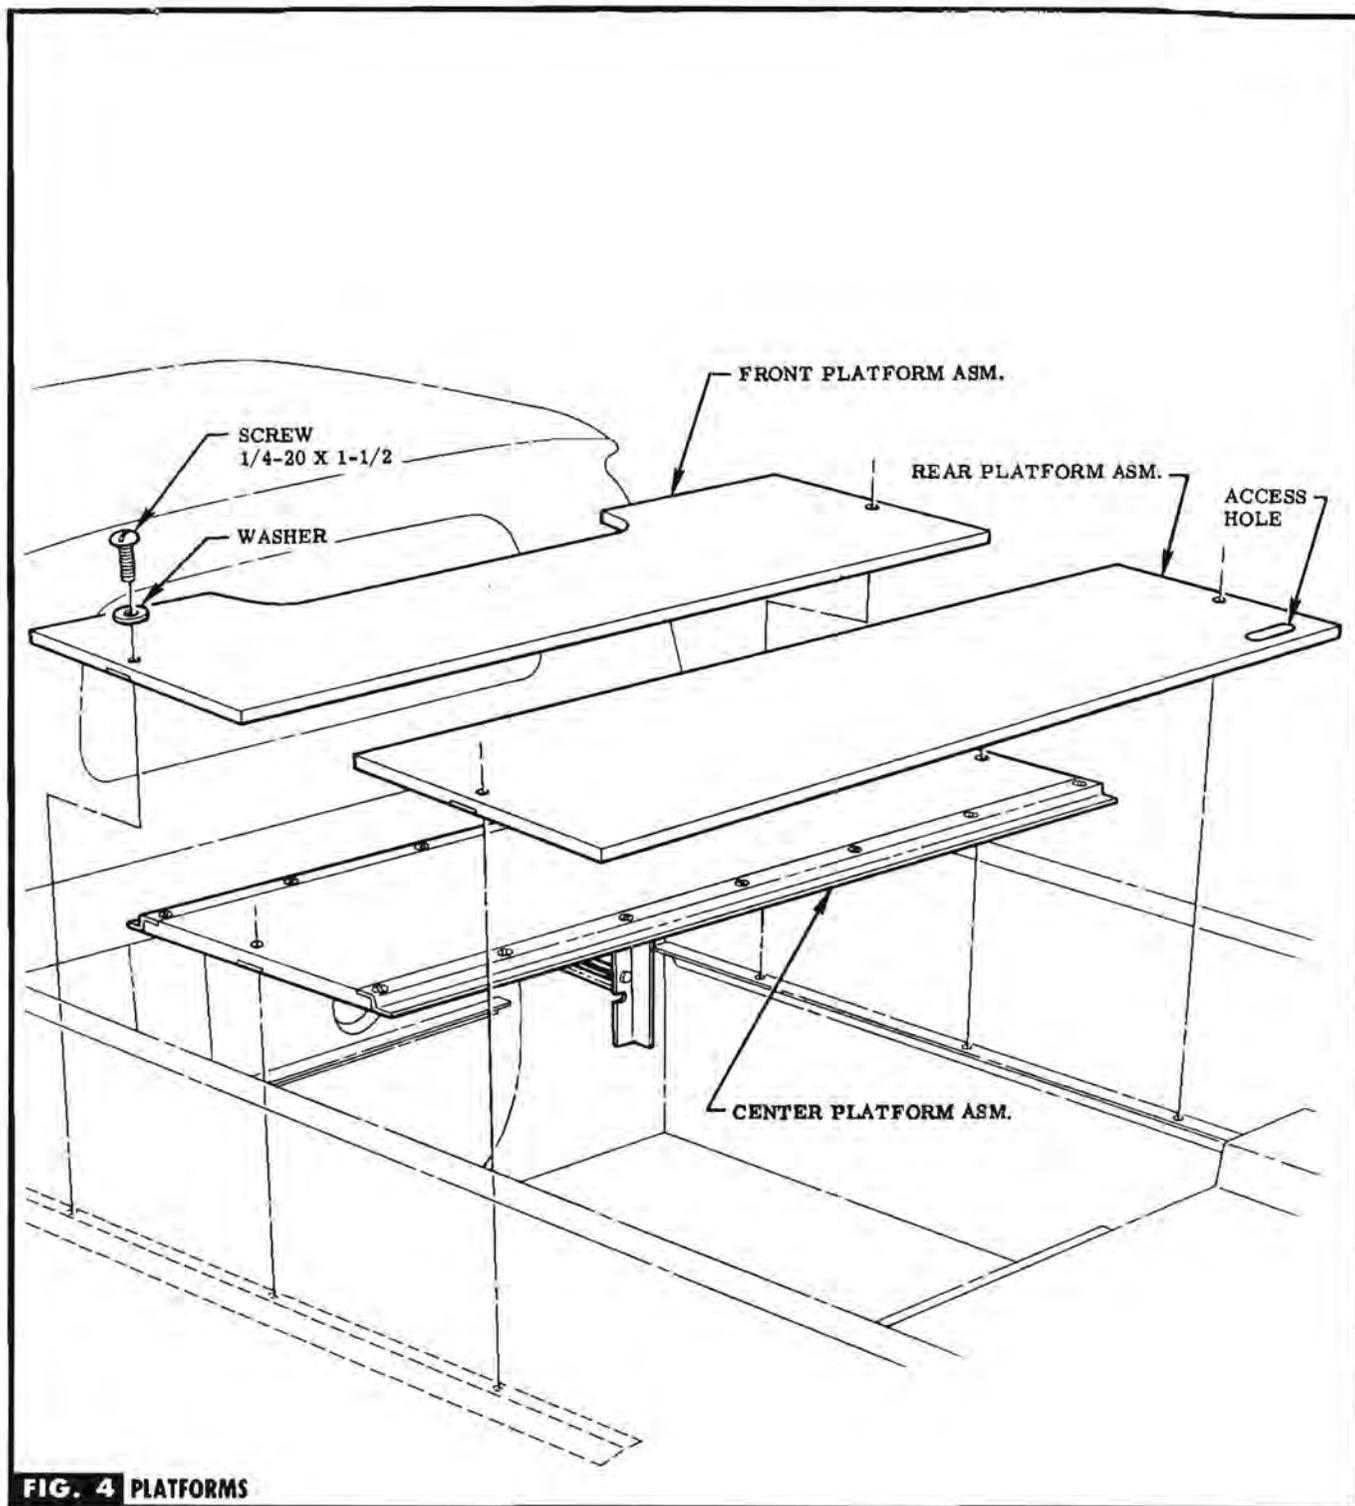

FIG. 4 PLATFORMS
STEP 17 INSTALL PLATFORMS & SECURE WITH ATTACHING PARTS PROVIDED. SEE FIG. 4.
STEP 18 TO REMOVE PLATFORMS, REMOVE SCREWS & START BY LIFTING REAR PLATFORM, USING ACCESS HOLE ON R. H. SIDE. SEE FIG. 4.